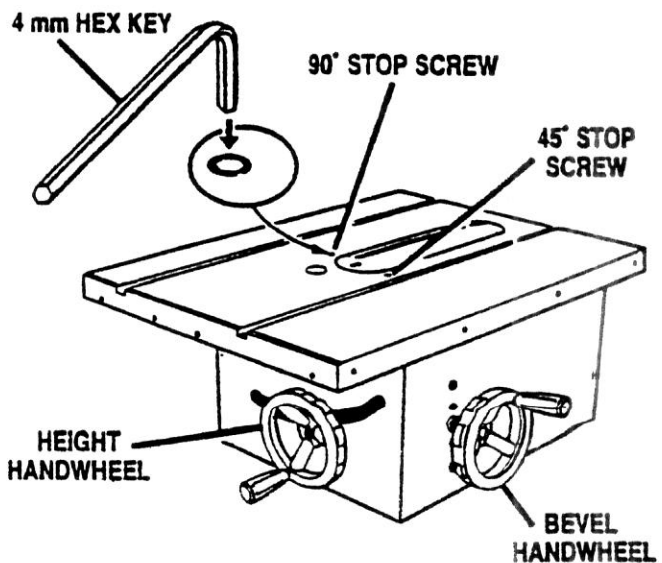

Fig. 42
- If blade angle is wrong, adjust the 90° stop screw (left of the blade, looking from the front). See Figure 42 Start by turning the 90° stop screw three or four times with a 4 mm hex key.